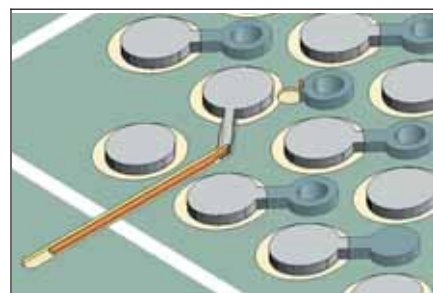

Figure 3 Bond a new BGA pad in place.
5. Inspect the proposed path for the foil jumper to ensure proper clearance. Use a milling machine to mill a shallow groove in the solder mask surface from the BGA pad area to the perimeter of the BGA site. Tight spacing may restrict the width of the channel to 0.25 mm [0.010 in] or less. Use a carbide end mill approximately 0.050 mm [0.002 in] wider than the new connecting circuit. (See Figure 3.)